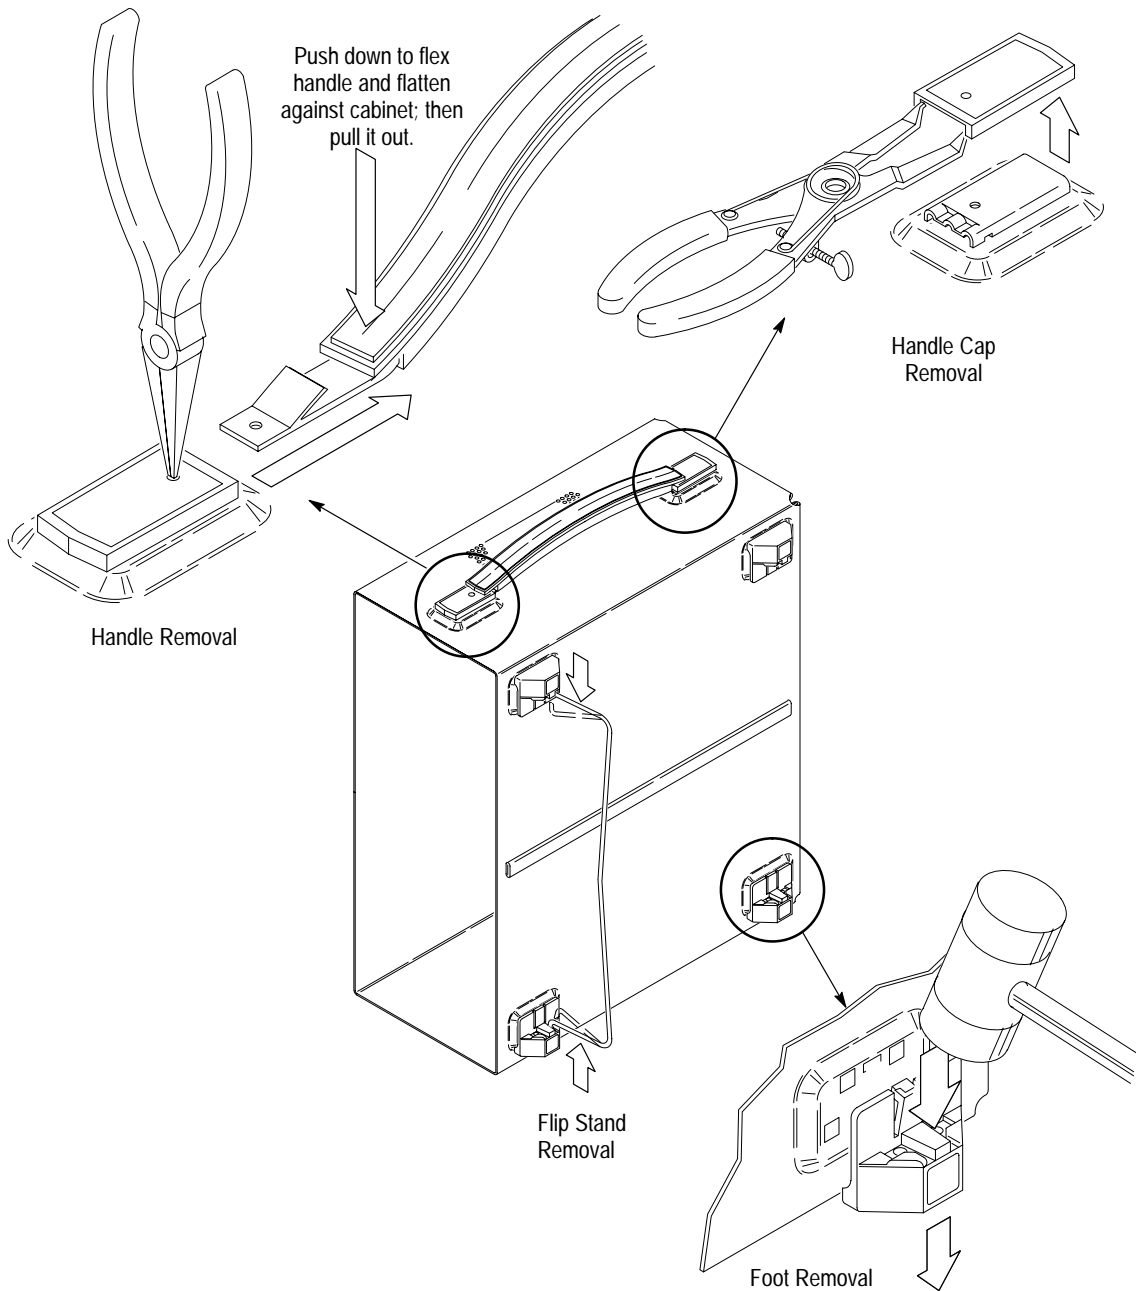

Figure 5: Cabinet Hardware Removal
- a. *Orient the oscilloscope:* Set the oscilloscope so its left side (when facing the front of the oscilloscope) is down on the work surface as shown in Figure 5. Reference Figure 5 as you do substeps b through e.
- Locate the two front brackets and the four T-20 Torx mounting screws (8-32) in Figure 5. Also locate the two front bracket handles and the four number two pozidrive screws (10-32) used to mount them to the front brackets.